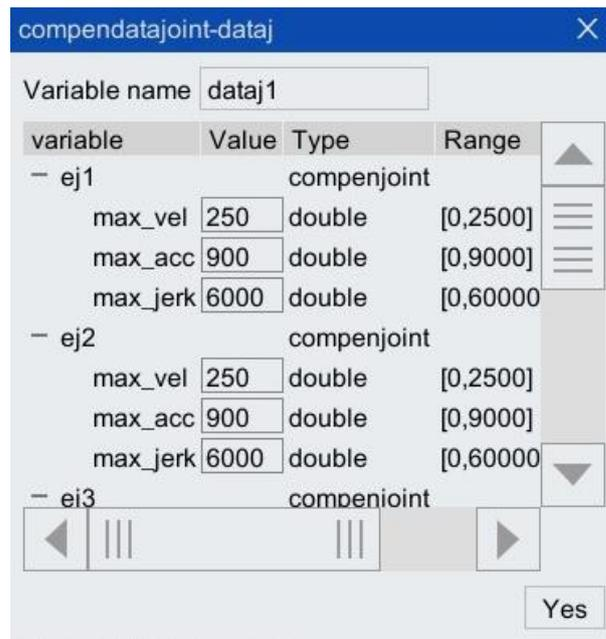

Figure 5-34 [Dataj] parameter configuration interface
Step4.Click the <...> button on the right side of dataj to pop up the parameter configuration interface of [dataj] as shown in Figure 5-34. This parameter represents the maximum speed, acceleration, and jerk of the robot for tool compensation. After setting it according to actual needs, click the <Yes> button.